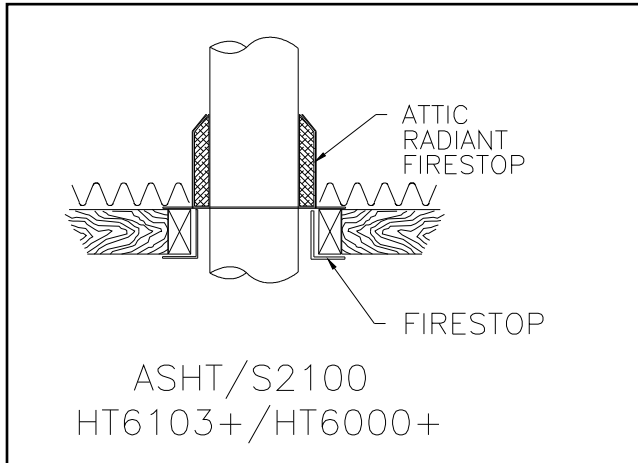
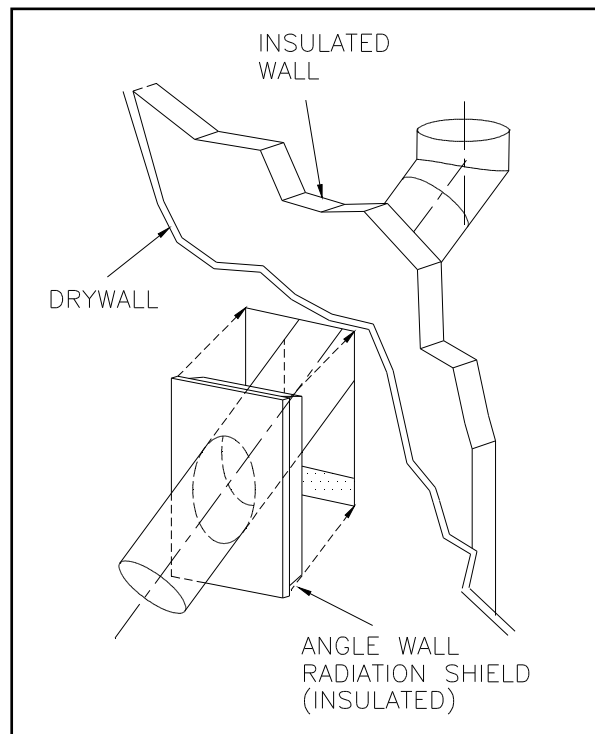

Figure 14a
Figure 19
From below, install a firestop in each ceiling/floor separation through which the chimney will pass. At the attic level, install an attic radiation shield from above (see Figures 14a & 14b).
1. Install the first elbow. Turn it in the required direction. Fasten it to the chimney with the three (3) 1/2" (12 mm) metal screws provided.
2. Install the necessary lengths to achieve the required offset. Lock the chimney lengths together: it is recommended to use three (3) 1/2" (12 mm) screws. If the offset length is made of two (2) chimney lengths use an offset support halfway up the offset. If penetrating a wall, install a wall radiation shield (see Figure 19).
3. Use another elbow to turn the chimney vertically. Secure the elbow, using three (3) 1/2" (12 mm) screws.
5. From below, install a radiation shield (see Figure 14a).